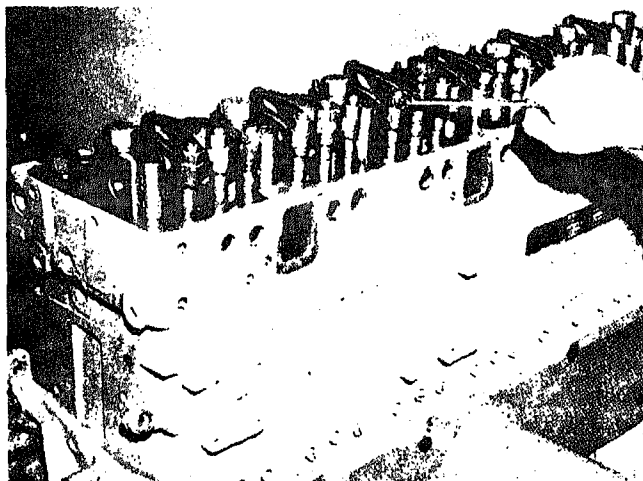

Fig. 0-31. Loosening rocker lever jam nuts
1. Loosen all injector and valve rocker lever locknuts and back off adjusting screws one or two turns. Fig. 0-31.